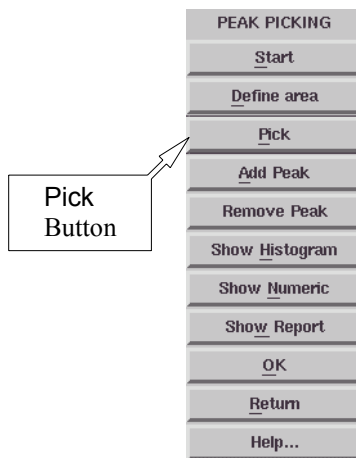

Figure 6-24 The Peak Picking menu.
3. **Click the Pick button.** Click Pick in the Peak Picking submenu. (See Figure 6-24.)